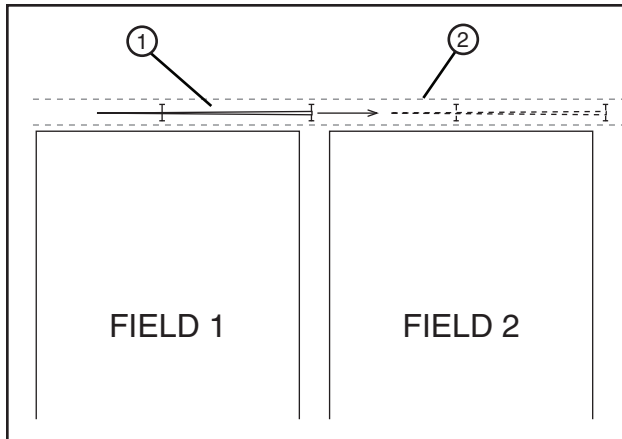

Figure 66-1 1. Machine
1. Position the machine in the tow lane. See figure 66-1.